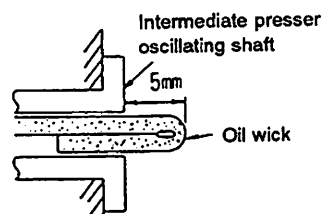

Fig. 5-51-5
- Pass oil wick ④ through the intermediate presser oscillating shaft. Then fold the end protruding from the shaft, and insert the folded end into the shaft as shown in Fig. 5-51-5.